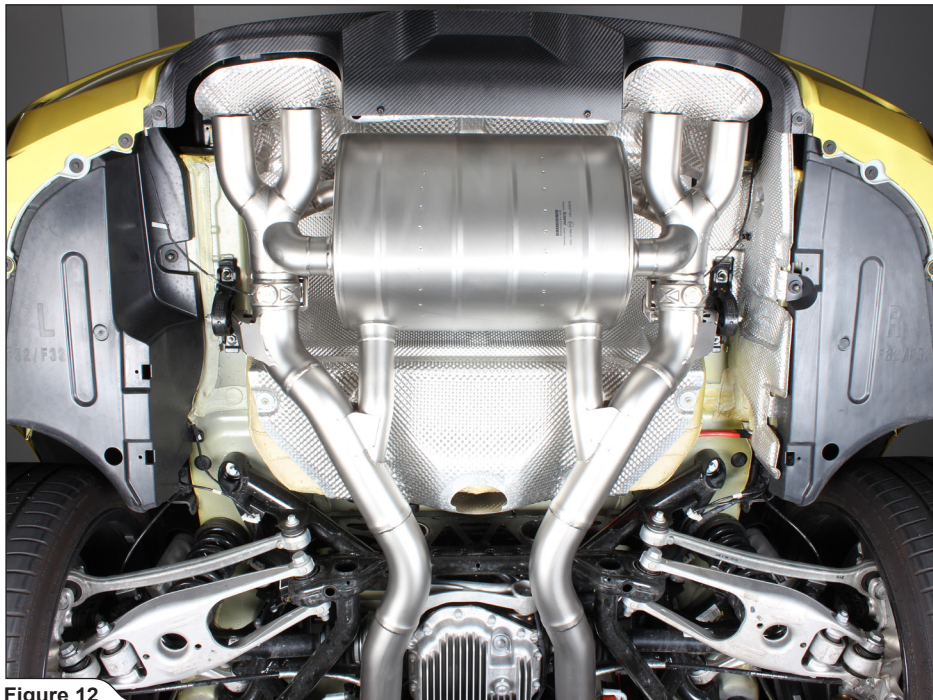

Figure 12
3. Slide the muffler onto the link pipes, tighten all rubber brackets onto the chassis, reconnect the exhaust valve servos' connectors, adjust and center the adapters with clamps in the middle of the joints and tighten the clamps (Figure 12, 13, 14).